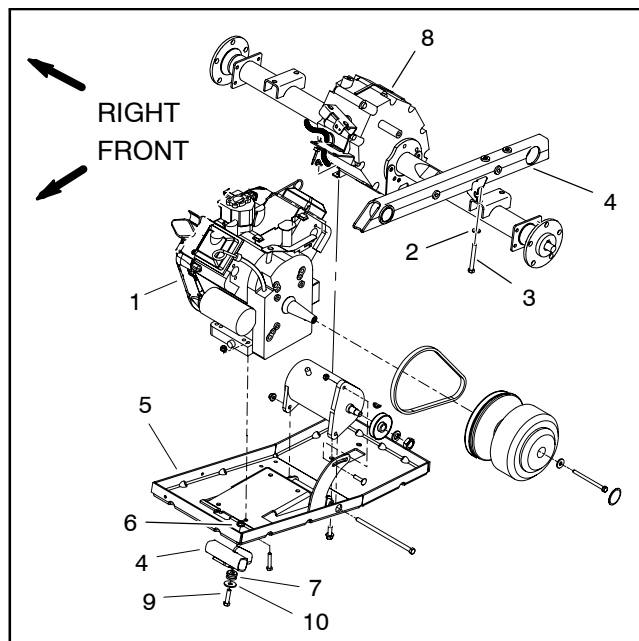

Figure 14
11. Remove both flange nuts, flat washers and cap screws that secure the engine tray to the swing arm (Fig. 14).
12. Remove four (4) cap screws and flat washers that secure the transaxle to the swing arm (Fig. 14).
3. Secure engine tray to the swing arm with cap screws, flat washers and flange nuts (Fig. 14).
4. Secure transaxle to swing arm with four (4) cap screws and flat washers (Fig. 14).